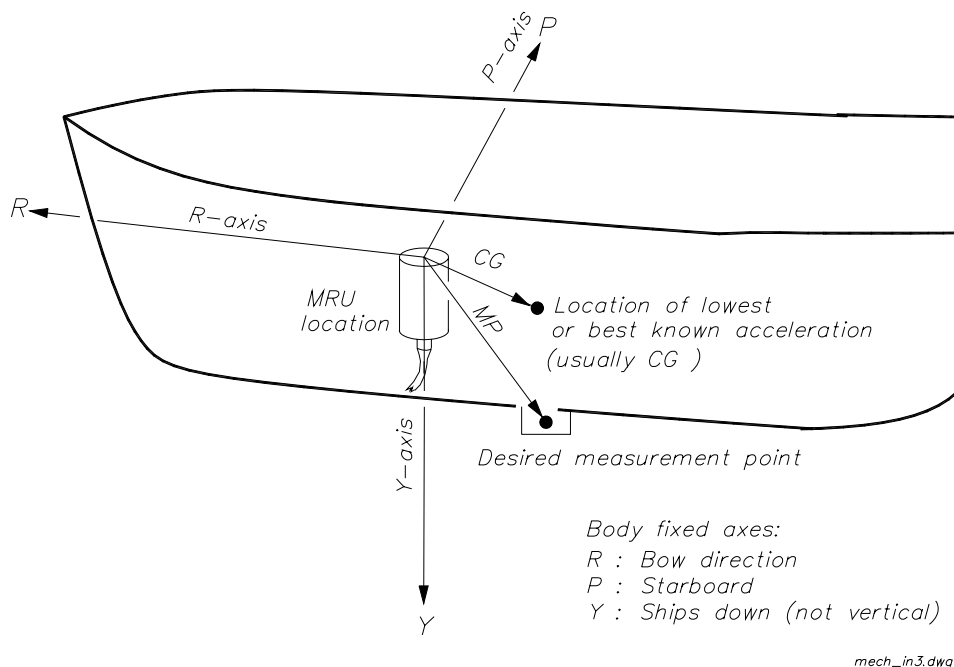

Figure 4 Locations of the MRU, CG and MP on the vessel
- Definition of the Centre of Gravity (CG) lever arm.** This is the lever arm vector (the components along the R,P,Y axes) from the MRU to the vessel's Centre of Gravity (CG). The components must be measured in metres from the MRU location with an accuracy better than one metre.
- Definition of the user Measurement Point lever arm (MP).** This is the vector (R,P,Y) from the MRU to the desired MP, as illustrated in Figure 4. The components must be measured in metres from the MRU location with an accuracy better than 0.1 metre. In systems where the MP is not a fixed point relative to the MRU location (crane, for instance), the MRU is designed to receive input co-ordinates for the lever arm MP from a computer through the MRU digital interface. The MRU command **Set Lever Arm Vector** is used to continuously update the MRU with the correct MP values. See reference [1] for more information on this command.
See "Appendix N - MRU configuration" for additional details on how to configure the MRU and set up the CG and MP lever arms. Typical locations of the CG, the MRU position, and the measurement point are shown in Figure 4.